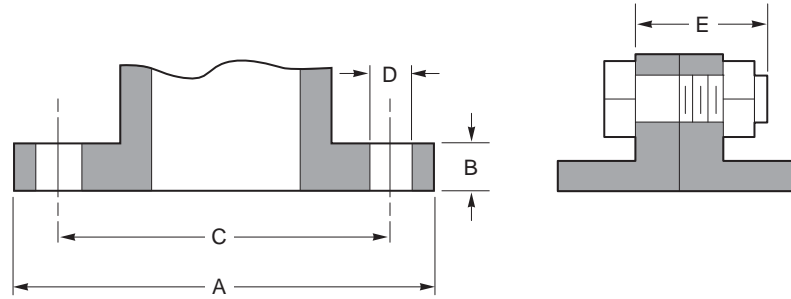

Figure-6 Flange Dimensions
4. Figure-3 shows the proper way a flanged valve should be mounted. See Figure-6 for flange and flange bolt details.
Table-9 Flange Detail for American Standard 125 psi Cast Iron Pipe Flanges (Figure-6)